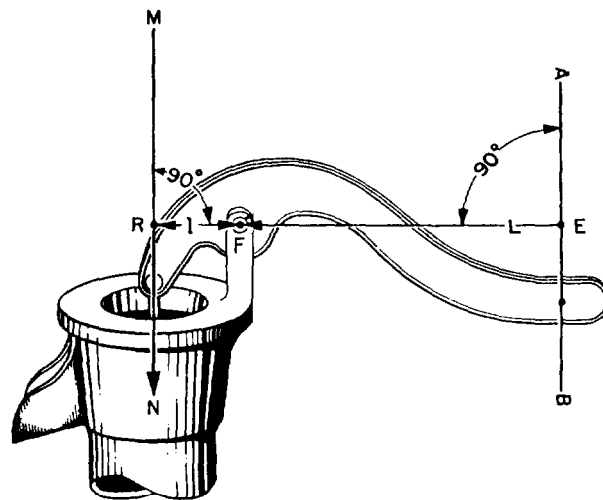

Figure 1-9-A curved lever arm.
Look at figure 1-9. You may wonder how to measure the length of the effort arm, which is represented by the curved pump handle. You do not measure around the curve; you still use a straight-line distance. To determine the length of the effort arm, draw a straight line (AB) through the point where the effort is applied and in the direction that it is applied. From point E on this line, draw a second line (EF) that passes through the fulcrum and is perpendicular to line AB. The length of line EF is the actual length (L) of the effort arm.